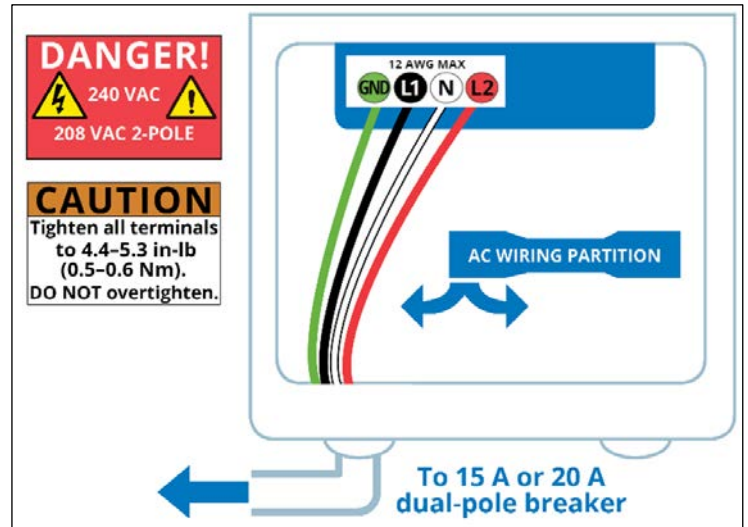

Fig. 30
- Flip the AC wiring partition to the *opposite* side of your incoming AC wiring (Fig. 30).
4. Strip wires and land according to the color-coded labels (black wire to L1; red wire to L2; white wire to N; green wire to GND) in the J5 terminals on the bottom left of the PVS5x board (Fig. 30). Tighten to 4.4–5.3 in-lb (0.5–0.6 N-m).